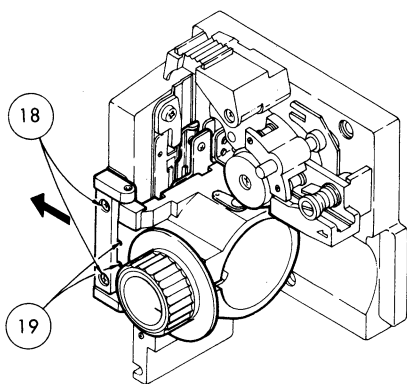
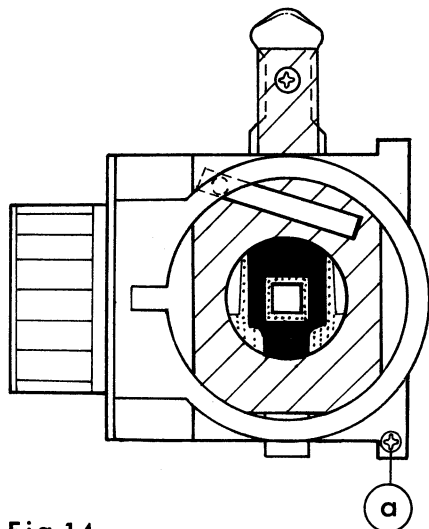

Fig 13
Fig 14
As pressing ((6)) in the direction of arrow in Fig.13, attach it with (18)x2 temporarily. As observing as shown in Fig.14, adjust the position of (3) and (19)x2 so that an aperture mask can exist at the center of pressure plate mask. And tighten (18)x2.
5. After attaching machine frame to the base frame, project "Resolving power film, type S (P054)" to check whether unevenness in focus appears or not. If appeared, adjust it with a screw, Fig.14-a.